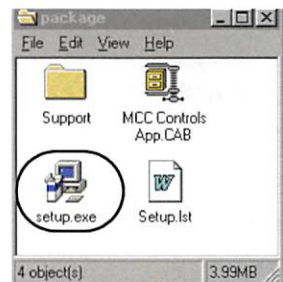

FIGURE 4
6. Click on **setup.exe** icon (see Figure 4).